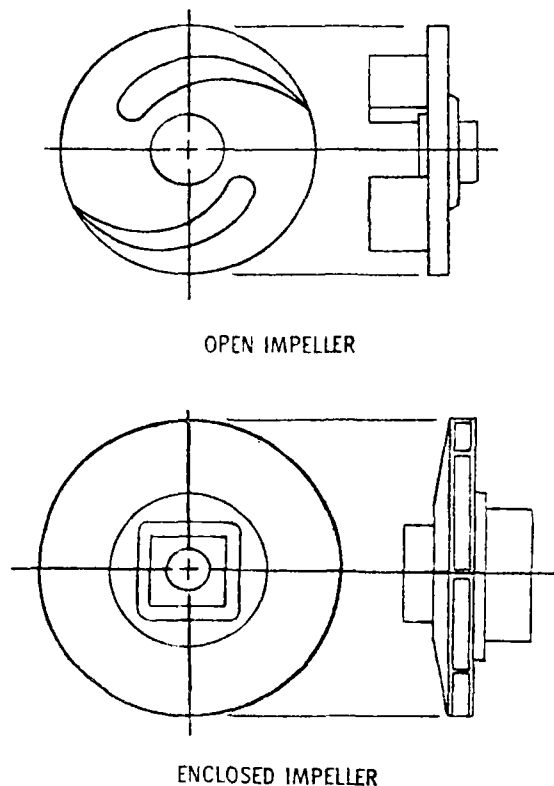

Figure 1. Types of impellers.
a. General. This manual covers Gorman-Rupp electric motor-driven, power-take-off driven and pedestal mounted self-priming, centrifugal pumps in the Model 10, 30, 80, 90, O and T series. Once a self-priming pump is filled with liquid, it will continue to reprime each time it is started without the use of auxiliary priming devices. Pumps are constructed with open or enclosed type impellers depending on their application (see Figure 1). Pumps in the O Series use enclosed impellers; all other pumps covered in this manual use the open type impeller. Open impellers are used in pumps designed for medium heads and liquids which contain entrained solids. Closed impellers are primarily used in pumps designed for pumping clean liquids at high heads and high discharge pressures.